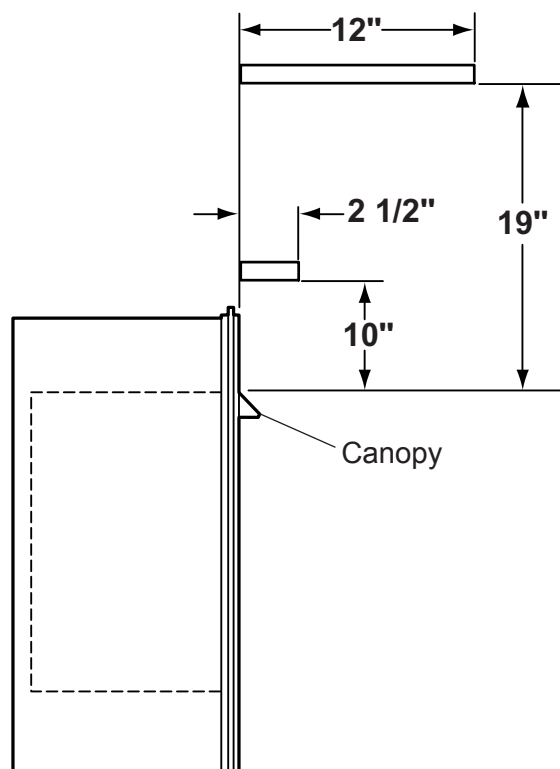

Figure 20 - Minimum Mantel Clearances
5. **Mantel clearances** — The canopy supplied with the unit must be installed. If a combustible mantel is installed. It must meet the clearance requirements detailed in *Figure 20*.